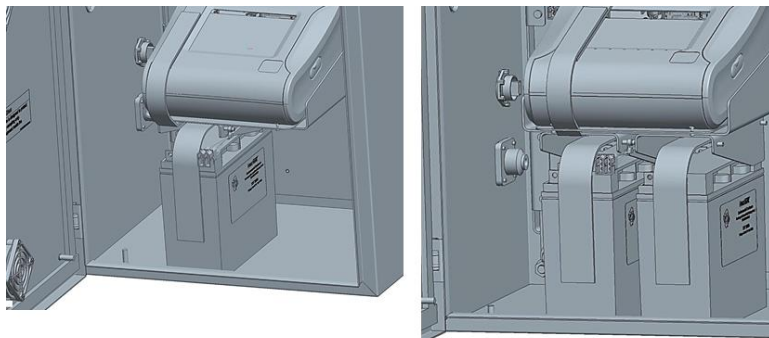

Figure 21: Placement and Connection of the Batteries
4. Place batteries in case and attach battery leads to the battery cable. If using one battery, place on left side. If using two batteries, place on both sides as shown in Figure 21.